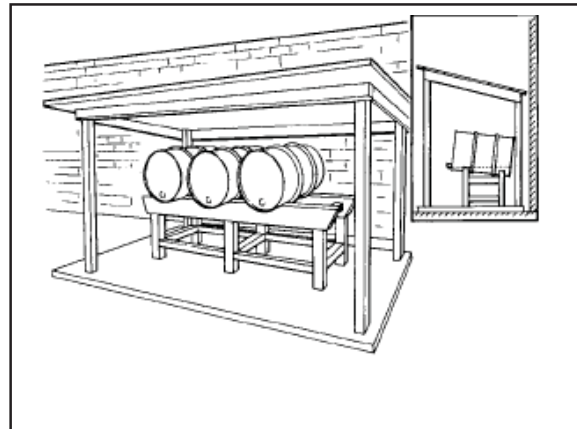

Fig.148
5. Drums (Fig. 148) should be stored under a protective cover to prevent the entry of water. Drums of fuel should not be stacked for a long period before use.